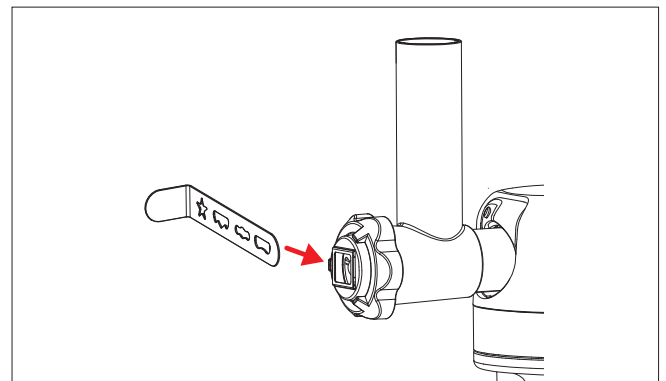

Fig. 22 – Inserting the biscuit press attachment from the side
4. Push the biscuit press attachment sideways into the holder. Slide the desired press attachment over the filling opening (see Fig. 22).